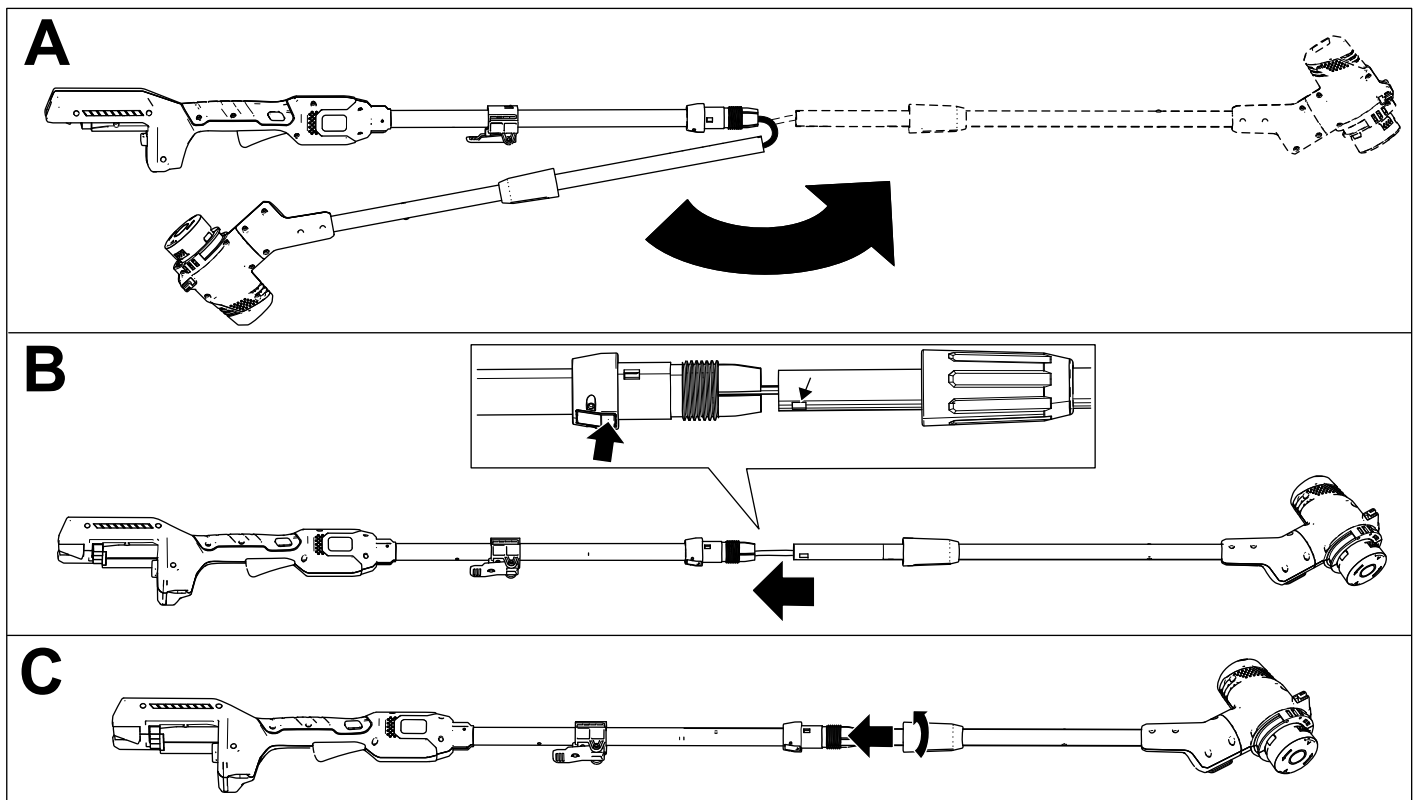

Figure 2
1. Unfold the handle (A of Figure 2).
2. Press and hold the locking button on the upper shaft, align the locking button with the slotted hole on the lower shaft, and slide the 2 shafts together. Once the slotted hole on the lower shaft is past the locking button, release the locking button, and slide the lower shaft into the upper shaft until the trimmer is at the desired height (B of Figure 2).
3. Tighten the lower shaft connector to secure the handle at the desired height (C of Figure 2).